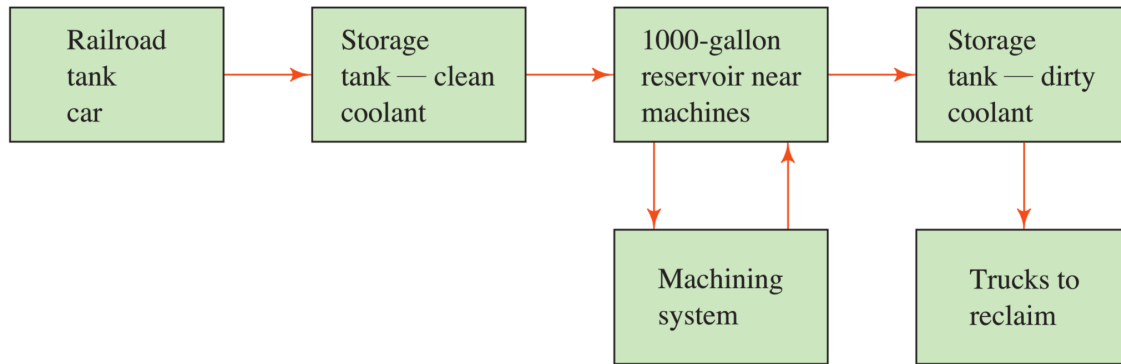

FIGURE 2. Block diagram of coolant system.
17. The basic coolant storage and delivery system is to have the functional design sketched in the block diagram in Figure 2.